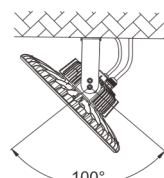

Figure 7
- 4.After installation, please wire in accordance with local connection standard, and make sure there is a good joint protective measures. Users can adjust 50 degree to left or right in vertical direction by adjusting the screw on the bracket.(Figure 7).